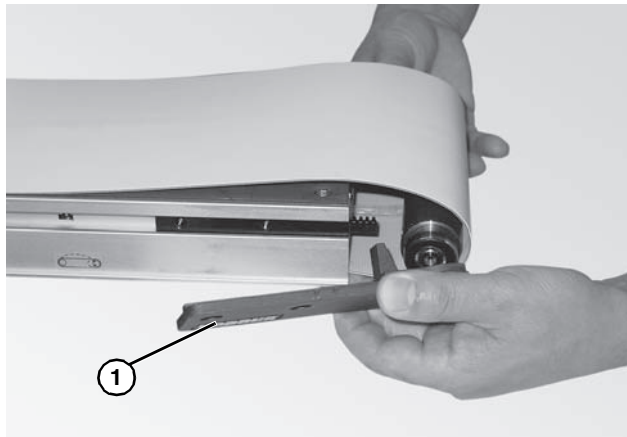

Figure 56
3. Place the head plate (**Figure 56, item 1**) and attach the head plate to the conveyor frame with the two (2) screws removed. Tighten screws 60 in-lb (7 Nm).